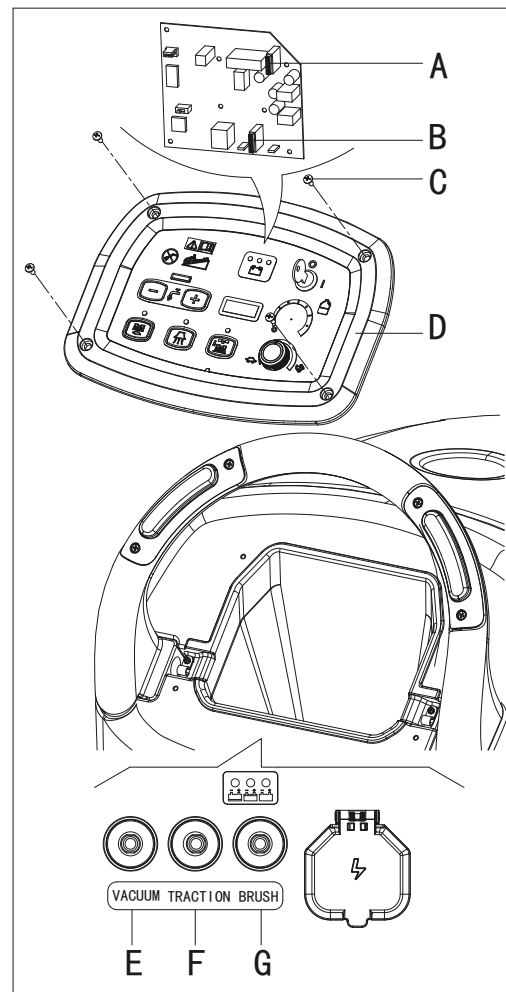

Figure 27
3. Remove the screws (C .Figure27) on control panel (D), then turn over the PCB to find the fuse (A, B, Figure 27).